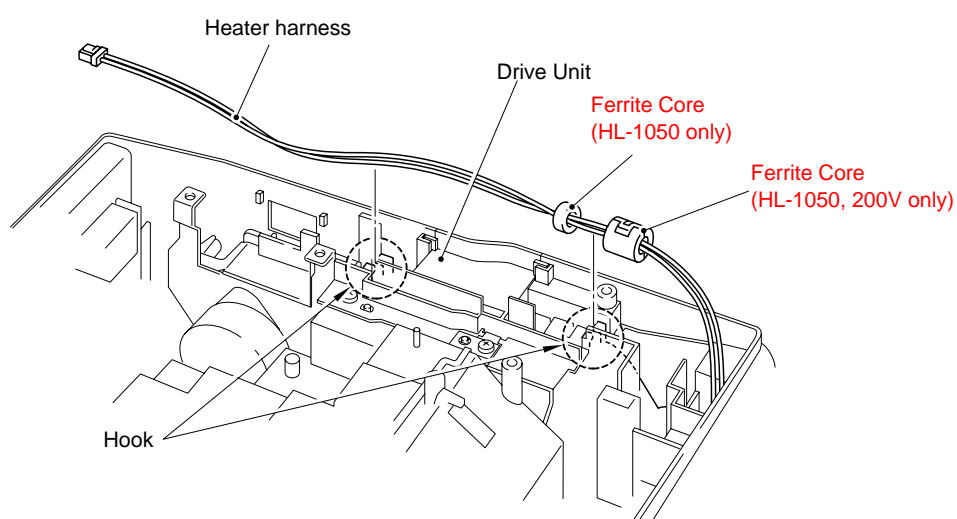
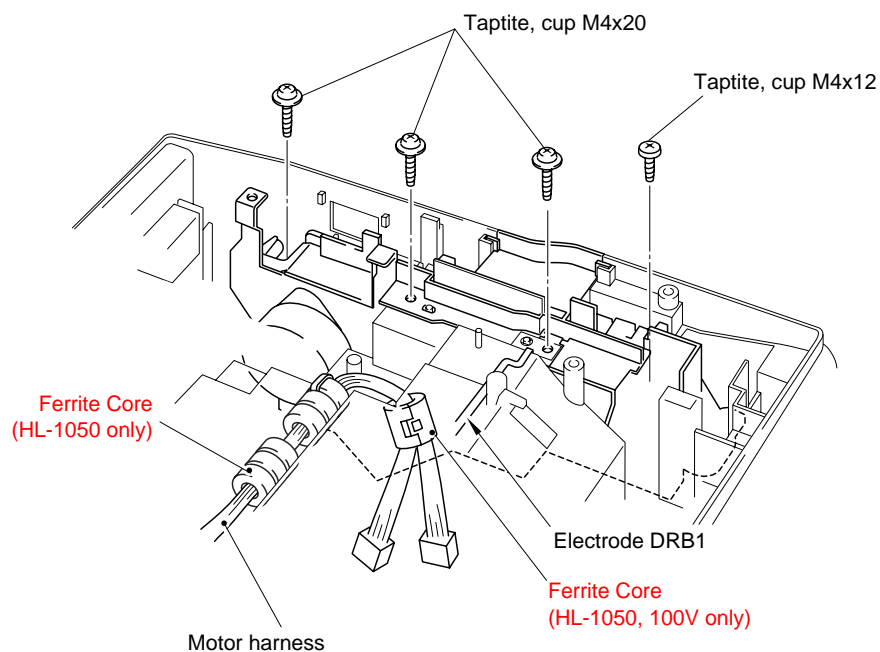

Fig. 3-26
Fig. 3-27
- When disassembling the drive unit, be sure to remove the eight ferrite cores of two types on the heater harness and the motor harness. (Refer to the figures in the previous page, Fig.3-26 and Fig.3-27.) The place where the bigger core should be assembled varies depending on the model.